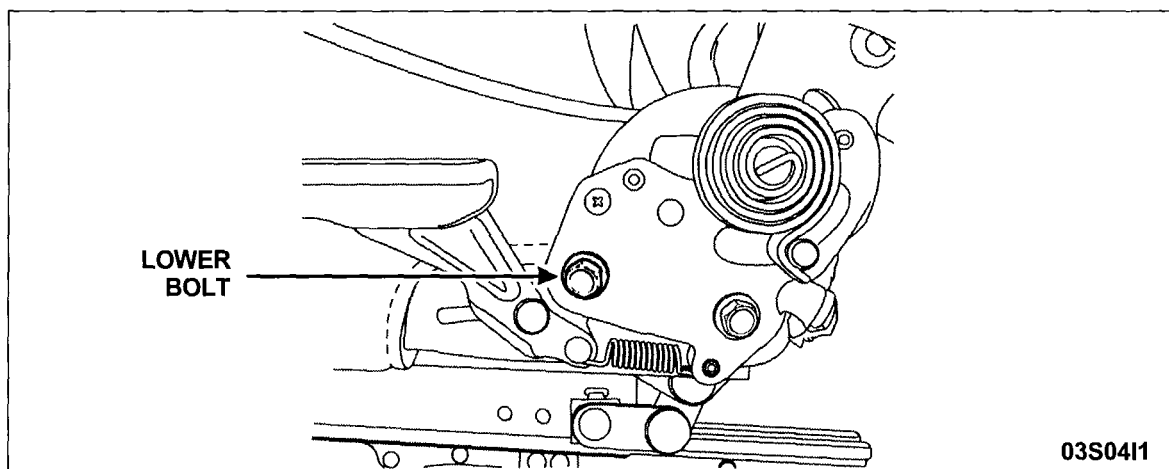

FIGURE 9
- Remove two (2) shield attaching screws (three [3] if equipped with power lumbar adjustment).
24. Remove and discard the lower bolt from the recliner assembly. See Figure 9.